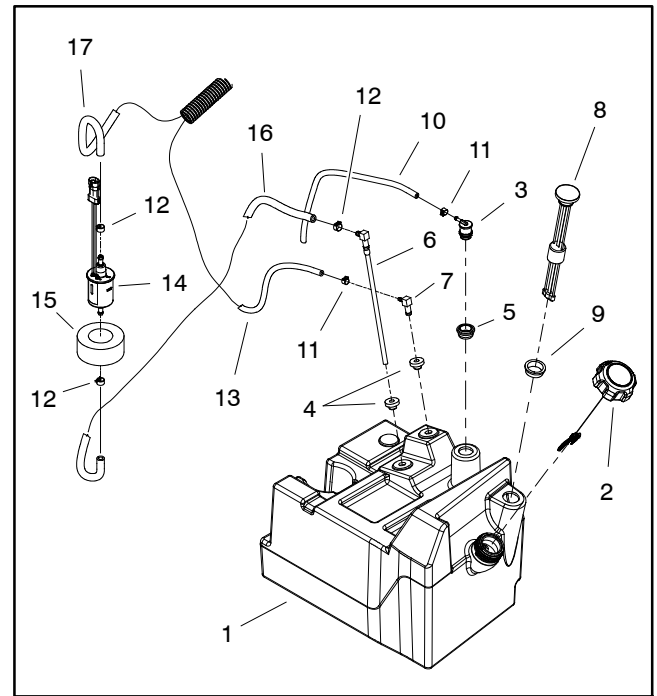

Figure 8
3. Loosen hose clamp and disconnect fuel return hose (item 13 in Figure 8) from elbow fitting in fuel tank.
4. Loosen hose clamp and disconnect fuel supply hose (item 17 in Figure 8) from the fuel pump.
7. Remove fuel tank components as needed using Figure 8 as a guide.
1. Install all removed fuel tank components using Figure 8 as a guide.
3. Connect fuel supply hose (item 17 in Figure 8) to the fuel pump and fuel return hose (item 13 in Figure 8) to the elbow fitting. Secure hoses with hose clamps.